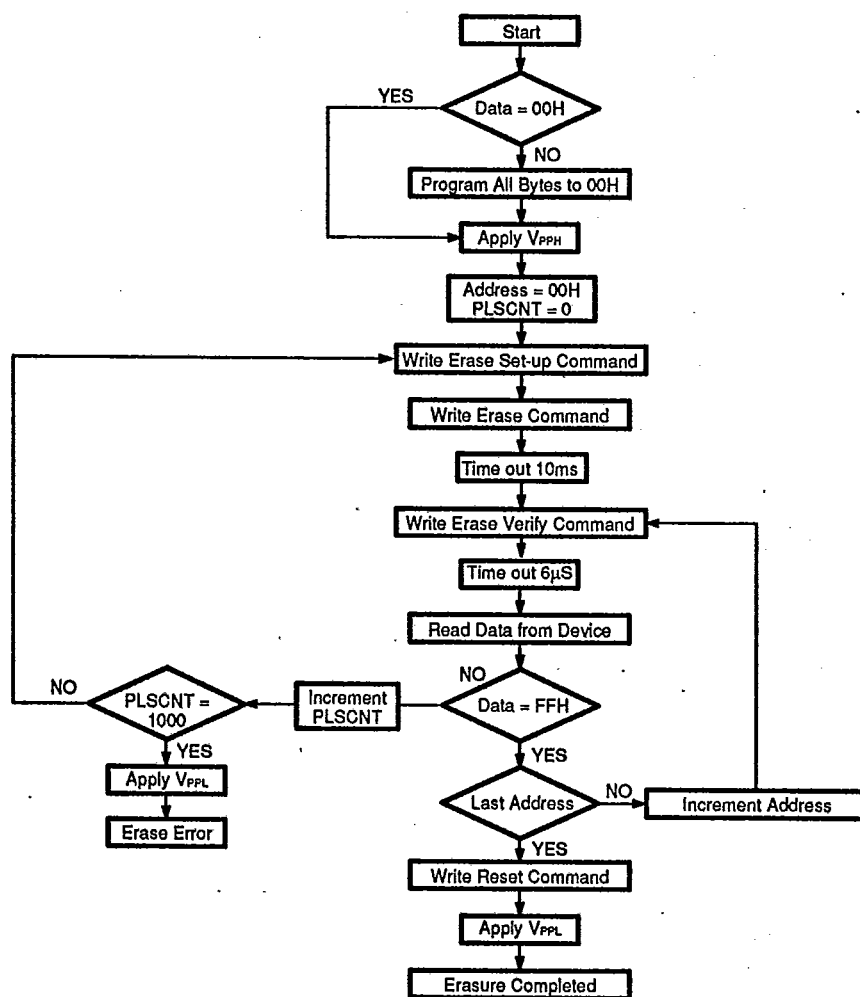

Figure 1. Flasher erase algorithm
4. Figure 1 illustrates the Flasherese Electrical Erase Algorithm.
If an address is not verified to FFH data, the entire chip is erased again (refer to Set-up Erase/Erase). Erase verification then resumes at the address that failed to verify. Erase is complete when all bytes in the array have been verified. The device is now ready to be programmed. At this point, the verification operation is terminated by writing a valid command (e.g. Program set-up) to the command register. Figure 1 and Table 5, the Flasher erase algorithm, illustrate how commands and bus operations are combined to perform electrical erasure.
plished using the Flashrite programming algorithm. Erasure then continues with an initial erase operation. Erase verification (Data = FFH) begins at address 0000H and continues through the array to the last address, or until data other than FFH is encountered. If a byte fails to verify, the device is erased again. With each erase operation, an increasing number of bytes verify to the erased state. Typically, devices are erased in less than 100 pulses (1 second). Erase efficiency may be improved by storing the address of the last byte that fails to verify in a register. Following the next erase operation, verification may start at the stored address location. A total of 1000 erase operations are allowed per reprogram cycle, which corresponds to approximately 10 seconds of cumulative erase time. Erasure typically occurs in one second. The entire sequence of erase and byte verification is performed with high voltage applied to the V_{PP} pin. Figure 1 illustrates the electrical erase algorithm.